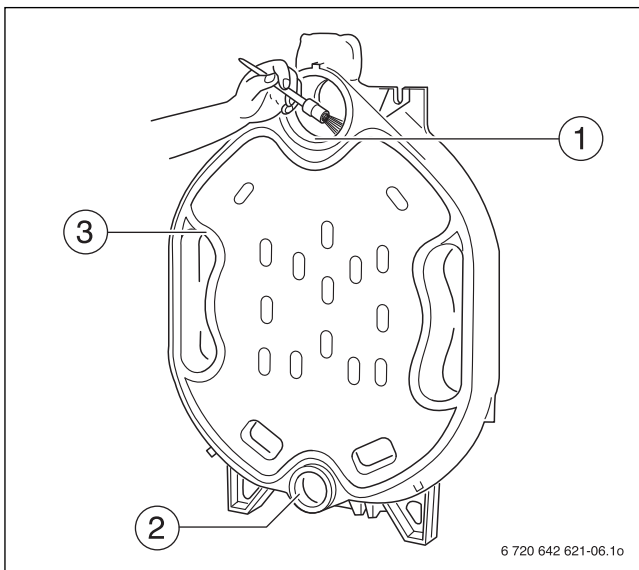

Fig. 13 Prepare packing grooves and hubs
- ▶ Clean the packing grooves where required using a wire brush and cloth (→ Fig. 13, [3]).
- ▶ Clean the hub sealing faces (→ Fig. 13, [1 and 2]) with a rag soaked in solvents or gasoline.